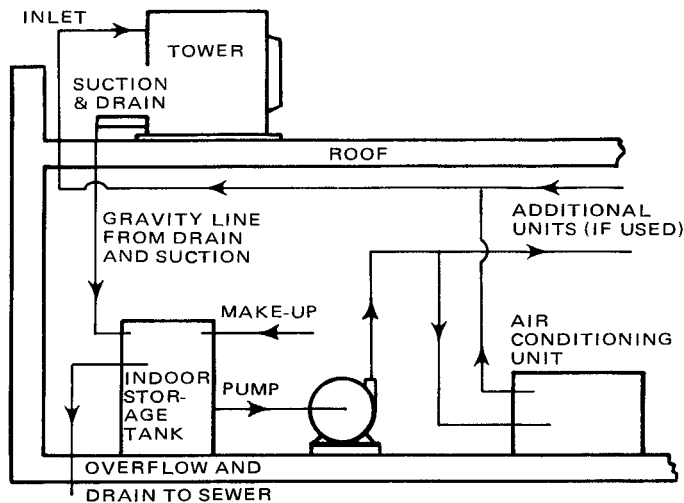

FIGURE 1. Flow Diagram for a Cooling Tower with Indoor Storage Tank. (Piping is arranged so that tower basin will drain when pump is shut off.)
- Where operating conditions require tower use during freezing weather, it is recommended that the towers be installed for "dry basin" operation. See Figure 1.